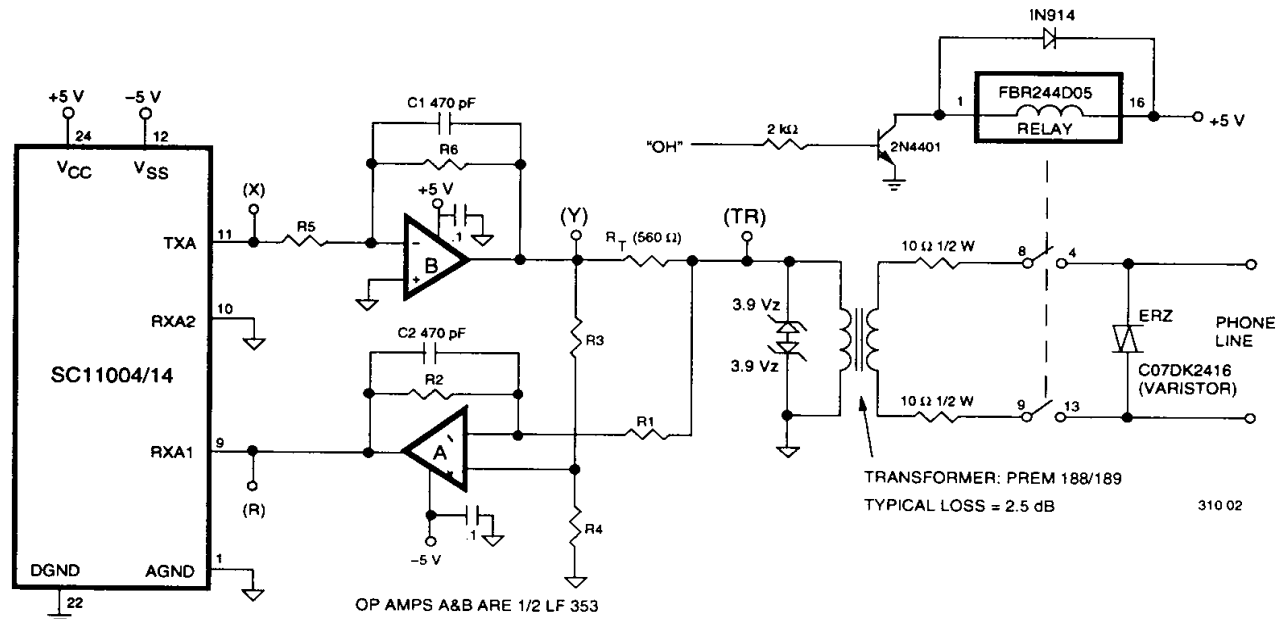

Figure 2. Using an External Hybrid with the SC11004/14
With a higher loss transformer, some degradation in performance at lower signal levels will occur. Specifically, the bit error rate, when operating at receive signal levels below -40 dBm in the presence of noise, will be higher. The energy detect on/off levels measured at the line will also be different from those specified at the chip. With a 3 dB loss transformer for example, the energy detect on/off levels measured at the line will be in the range of $-40/-45$ dB rather than $-43/-48$ dB as specified at the chip. An external hybrid circuit, shown in Figure 2, can be used to overcome these losses and achieve maximum performance.
The external hybrid circuit uses two operational amplifiers, one in the transmit path and the other in the receive path. The SC110104/14 internal transmit stage provides a gain of 6 dB over the transmit signal level desired at the line. For example, if the TLC1, TLC0 level control codes are set to 0 and 1 respectively so as to obtain -9 dBm at the line, the chip actually puts out -3 dBm at the TXOUT pin (pin 11). Under ideal conditions, with no loss in the transformer and perfect line matching, the signal level at the line will then be the desired -9 dBm. In practice however there is impedance mismatch and a loss in the coupling transformer. Therefore it may be desired to provide a gain in the transmit and receive paths to overcome the loss. The receive gain G_R and transmit gain G_T are set by the ratios of resistors R2, R1 and R6, R5 respectively (Figure 2).
It should be noted that the transmit amplifier is only needed to overcome the loss in line coupling. It can be eliminated since the transmit signal level specification is typically stated as a maximum. Amplifier B, resistors R5 and R6 and capacitor C1 can be eliminated and point X connected to point Y in the circuit of Figure 2 to achieve a more cost effective external hybrid arrangement.
- Instructions to the modem IC (See Note 1 and 2). Data on the DI/O pin shifted into the modem when \overline{WR} is low, on rising edges of the SCK clock. Data is transferred into a latch when \overline{WR} goes high. (See Figure 2 for write cycle waveforms). Up to 7 data bits (D0–D6) can be sent to the device. These bits control the operating modes of the modem as shown below: